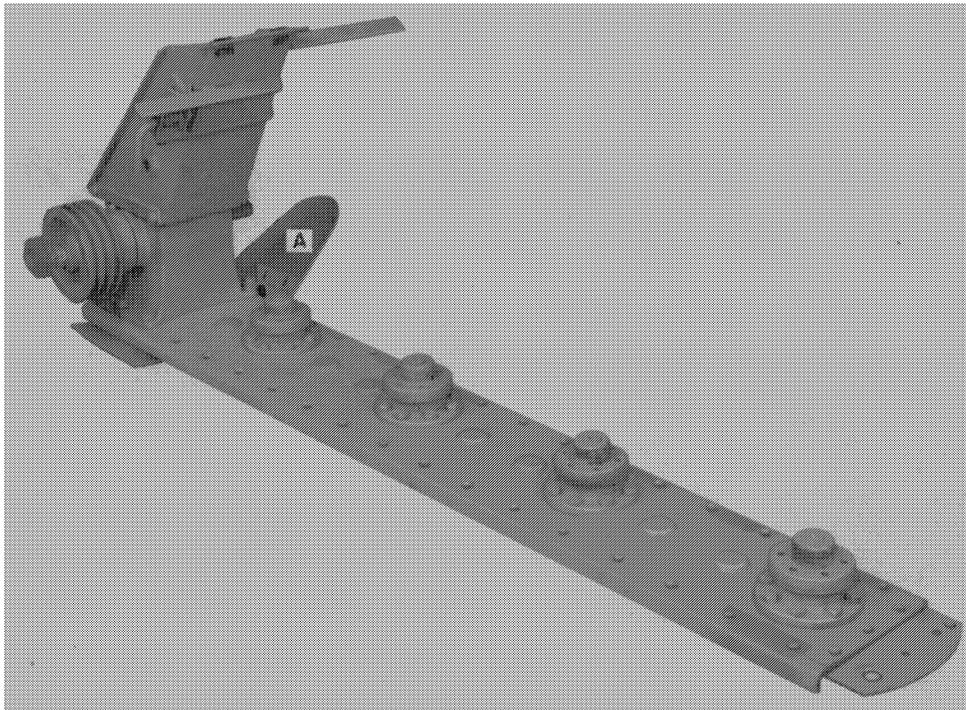

FIGURE 7
3. Remove the inner shoe A, Figure 7. **Be careful not to disturb the seal between the upper half of the cutter bar and the gear box.**